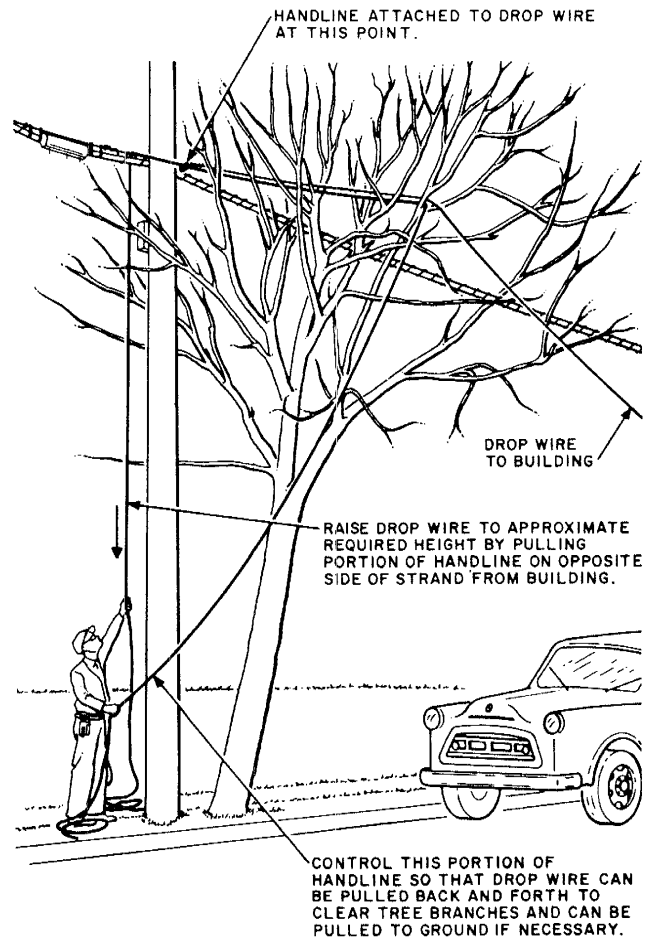

Fig. 8 — Raising Drop Wire
c. When no vehicles or pedestrians are approaching, raise the drop wire by pulling that portion of the handline on the opposite side of the strand from the building. The portion of the handline toward the building should pass through employee's hand as shown in Fig. 8 in order that he may be able to pull the handline in either direction to work the drop wire among the branches of the tree or to pull the wire to the ground quickly if necessary.